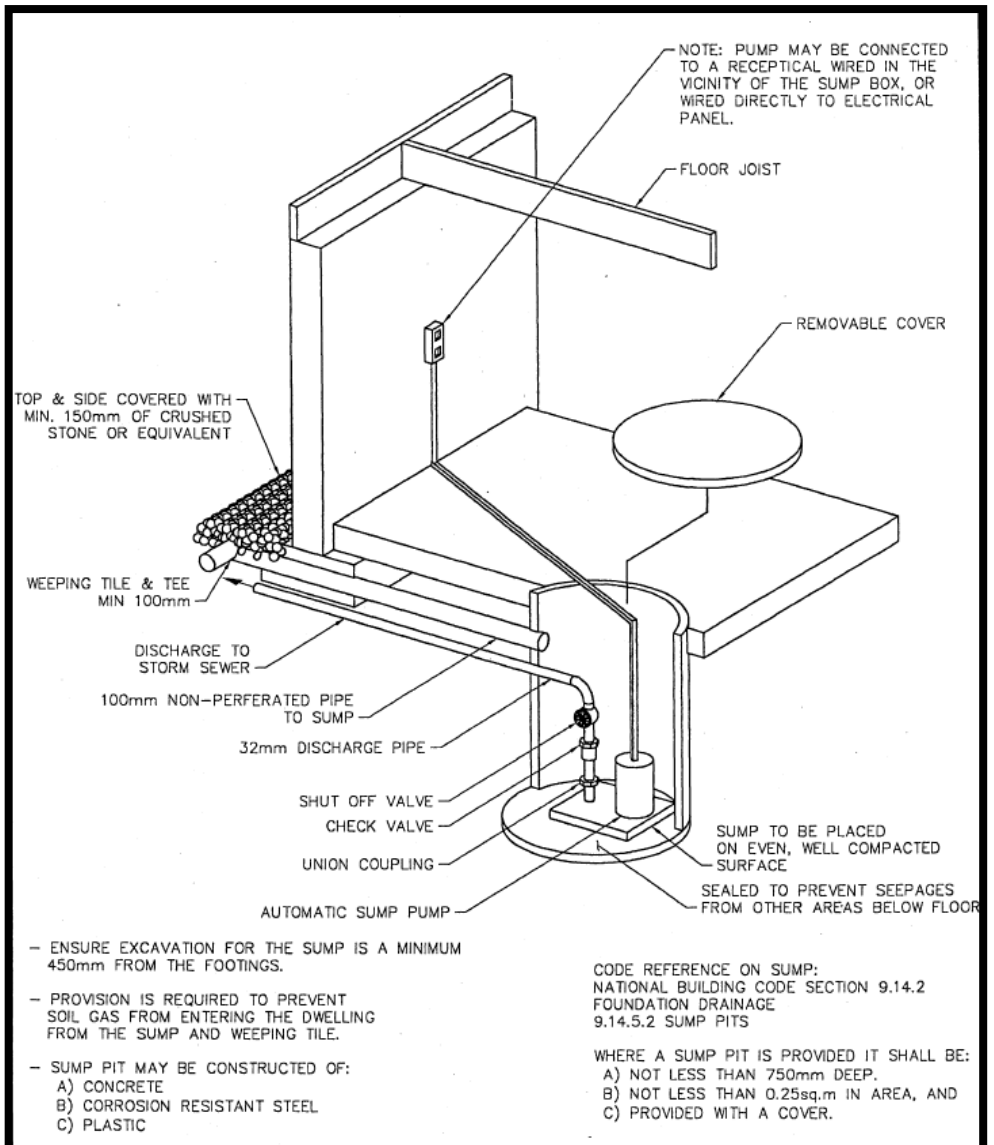

FIGURE 3: SUMP DESIGN
- a. Sumps discharging to storm sewers shall be pumped to the main by a pressure service connection as per Figure 3 (Page 7) Sump with Pumped Discharge to Storm Sewer.